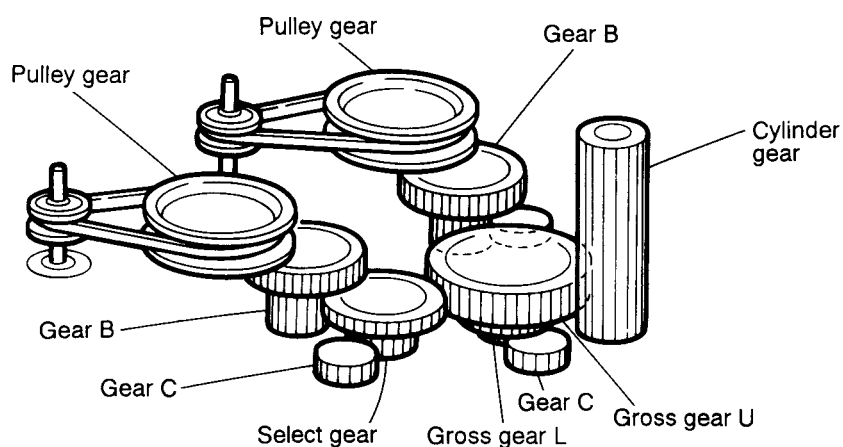

Fig. 5-51
**[Note]** When the chassis assembly is turned over under the conditions wherein the gear bracket and belt have been removed, then the pulley gear as well as the gear, etc. constituting the gear unit can possibly be separated to pieces. In such a case, assemble these parts by referring to the assembly and configuration diagram in Fig. 5-51.